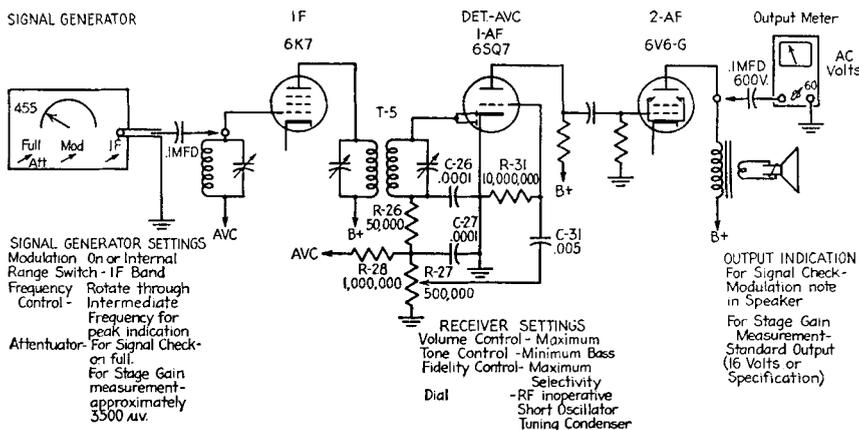

FIG. 12-6. Signal check connections for the detector and AVC stage.
**Signal check.** The input of the detector stage is the IF transformer T-5. However, when the stage is checked, the signal generator is connected to the grid of the IF tube, as shown in Fig. 12-6. There are several reasons for this connection:
The signal generator, receiver, and output meter are hooked up, as shown in Fig. 12-6. The receiver is adjusted for maximum output as follows: The volume control is set at maximum; the tone control is set at the minimum bass position; the fidelity control (if present) is set for maximum selectivity. The RF portion of the receiver is made inoperative by shorting the oscillator section of the gang variable condenser.